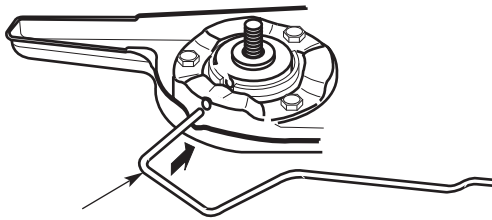
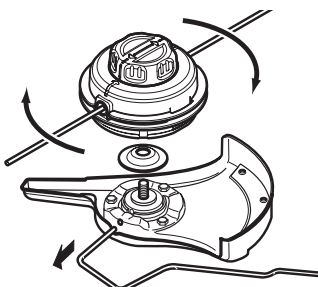

Figure 1
Figure 3
2. Rotate the cutting head (Fig. 3) until the shaft bushing hole aligns with the locking rod slot (Fig. 1).
3. Insert the locking rod through the locking rod slot and into the shaft bushing hole (Fig. 1).
5. While holding the locking rod in place, unscrew the cutting head by turning it clockwise (Fig. 3).
6. Remove the locking rod (Fig. 3).
7. Remove the blade retainer (Fig. 3).